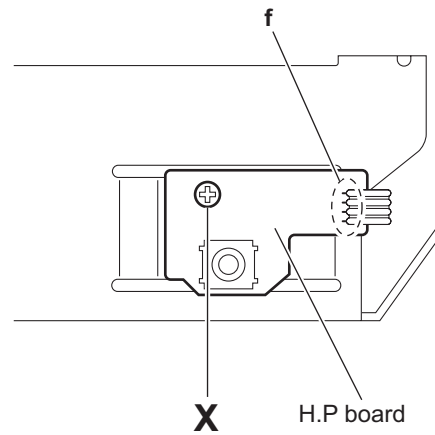

Fig.21
3.1.20 Removing the H.P board (See Fig. 21)